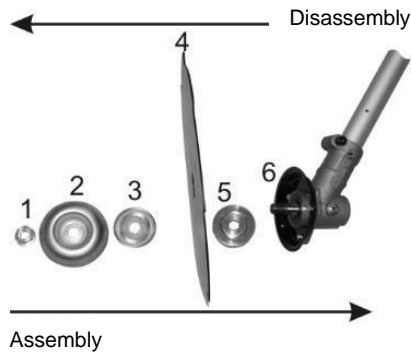

Fig. 7
The assembly-disassembly order is shown in fig. 7
Use the hex key with blocker supplied with the brushcutter and position it in the locking hole of the reducer head and in the locking hole of the spacer in fig. 7 poz. 5.
The 3-teeth blade (item 4 Fig. 7) can be installed on any side with double cutting edge.
When installing the trimmer head, items 1, 2, 3 and 4 in Fig. 7 are not used. The hex key with blocker (pos. 5, Fig. 7) is used, which helps locking the shaft of the reducer head, and the trimmer head is then threaded, counterclockwise, by hand, with the help of the wrench and tighten strongly.